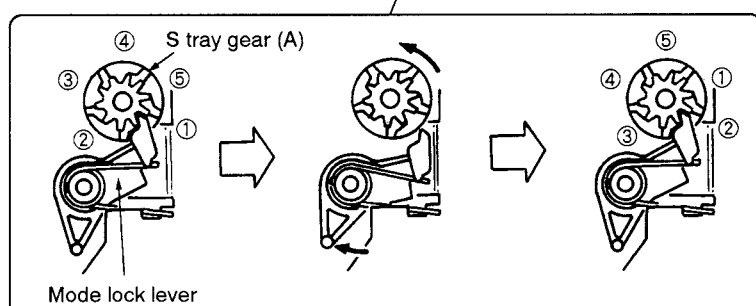

Figure 2
2. Engage the claw of mode lock lever with the tooth of S tray gear (A). (Refer to figure 2.)
4. If the play is more than 1mm, unlock the draw lever. Then, rotate the S tray gear (A) in the direction of arrow with lifting a small amount and engage the mode lock lever with the block. (Refer to figure 2.)